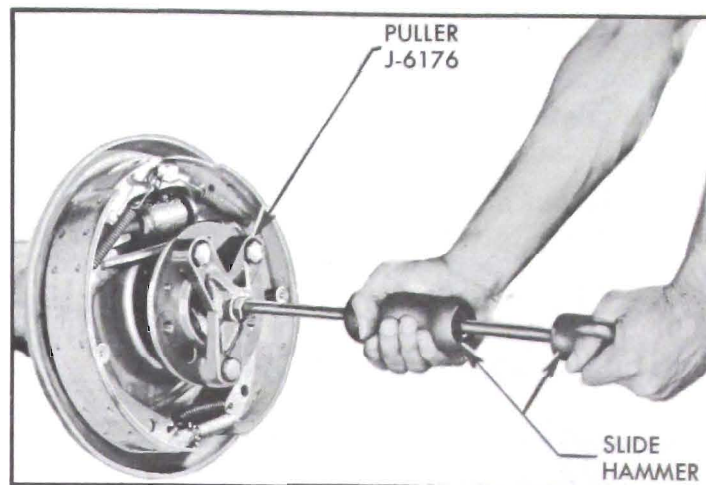

Figure 6-4—Removing Rear Axle Shaft
4. Pull out axle assembly using Puller J-6176 with a slide hammer. Be careful not to disturb brake backing plate. See Figure 6-4.